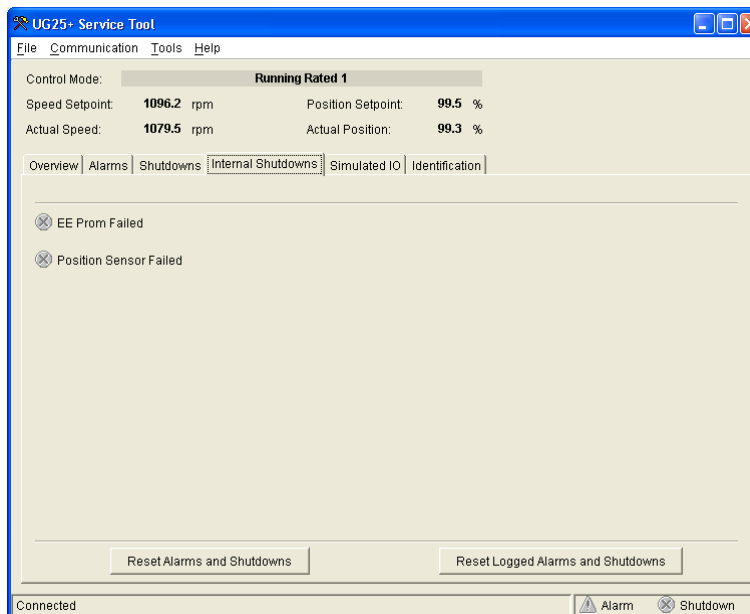

Figure 5-6. Service Tool – Internal Shutdowns Tab
- Internal Shutdowns (see Figure 5-6)